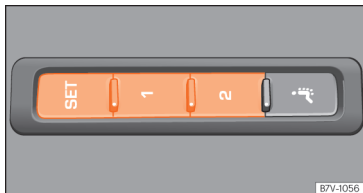

Fig. 136 Memory buttons on the outside of the driver seat
- Press **SET** for longer than 1 second »» **Fig. 136**.
- Press and hold the **SET** button »» **Fig. 136**.